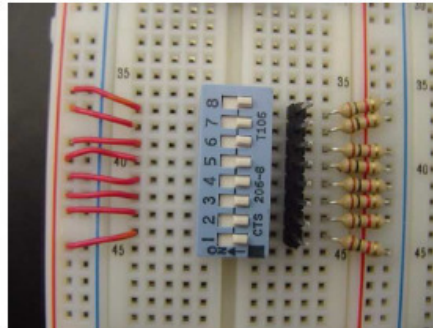

Figure 2: Dip Switches
2.1. Place a block of 8 DIP switches on your breadboard, Figure 2.